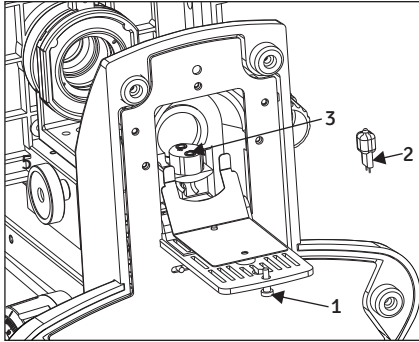

Fig. 11
1. Pull the lock knob (1) on the bottom to open lamp housing door (fig.11).
2. Hold the halogen bulb (2) without taking it out of the polyethylene bag so as not to taint the bulb with fingerprints and push the bulb into the pin holes on the socket (3). After attaching, remove the polyethylene bag.